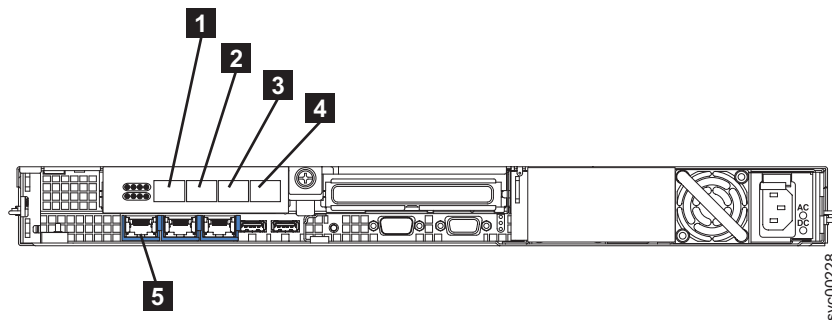
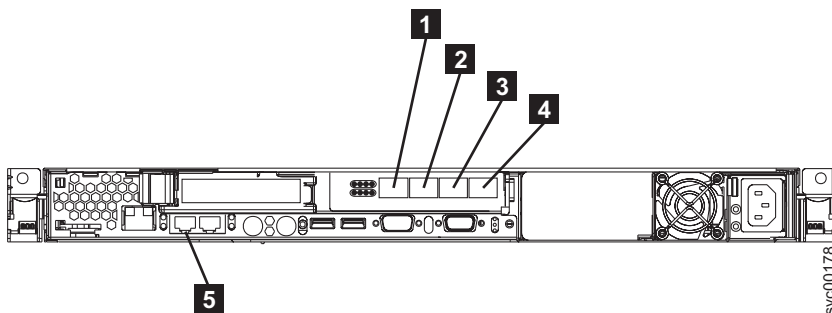
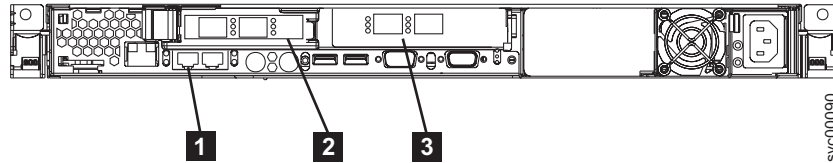

Figure 51. Connectors at the back of the SAN Volume Controller 2145-8G4
Figure 52. Connectors at the back of the SAN Volume Controller 2145-8F4
Figure 53. Connectors at the back of the SAN Volume Controller 2145-8F2
1. Connect the Ethernet cable to Ethernet port 1. For the location of this Ethernet port, see Figure 51, Figure 52, or Figure 53 on page 89.